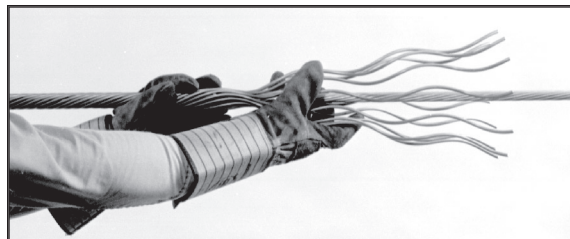

FIGURE 5: WRAP END BUNDLE
3.05 For Single-Set SRR, the remaining 10" to 14" (250-355 mm) of rods can be simultaneously wrapped into position with both hands - do first end bundle then the other end bundle. (Figure 5)